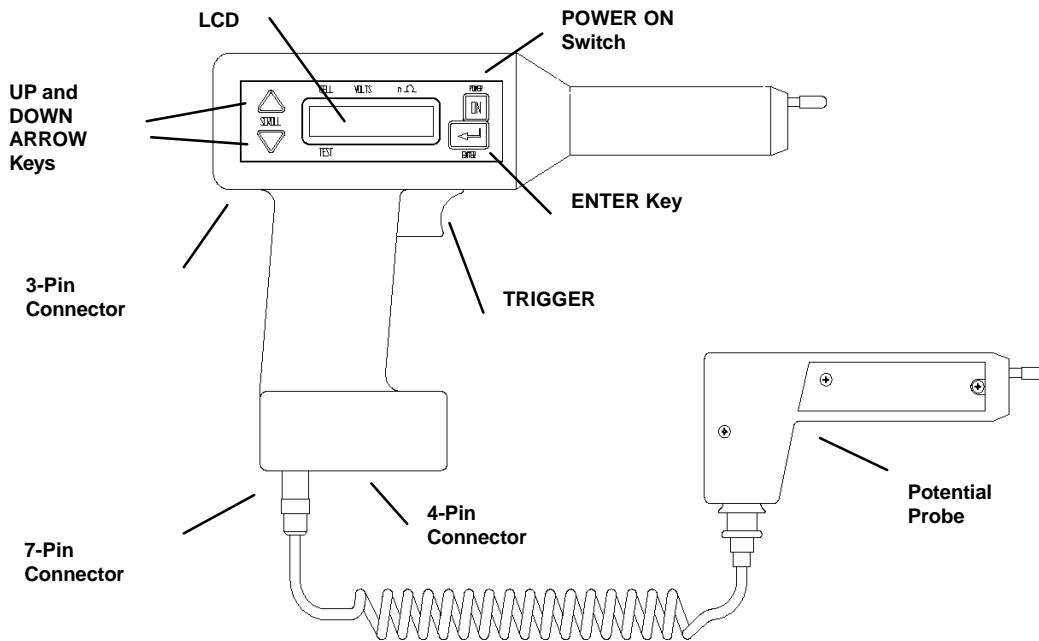

Figure 4-1: Receiver controls, connectors and indicators
- 2. Using the wand adapter cable, insert the wand into the 7-pin connector on the **receiver**. (See Figure 4-1 on page 28 for the location of the 7-pin connector.)